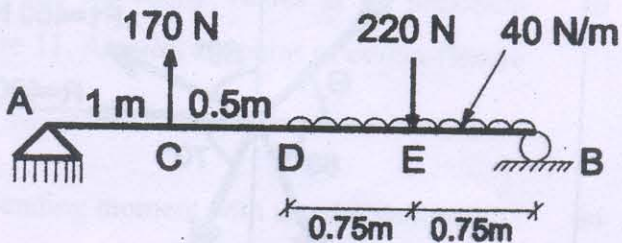

Figure 12
- (b) Draw shear force and bending moment diagrams indicating values at all important points for a simply supported beam shown in figure 12. 10